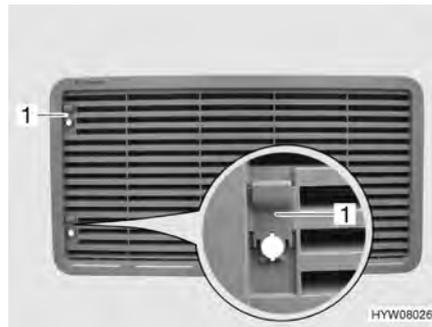

Fig. 155 Refrigerator ventilation grill (with sliding trap)
- Push sliding trap (Fig. 155,1) upward.